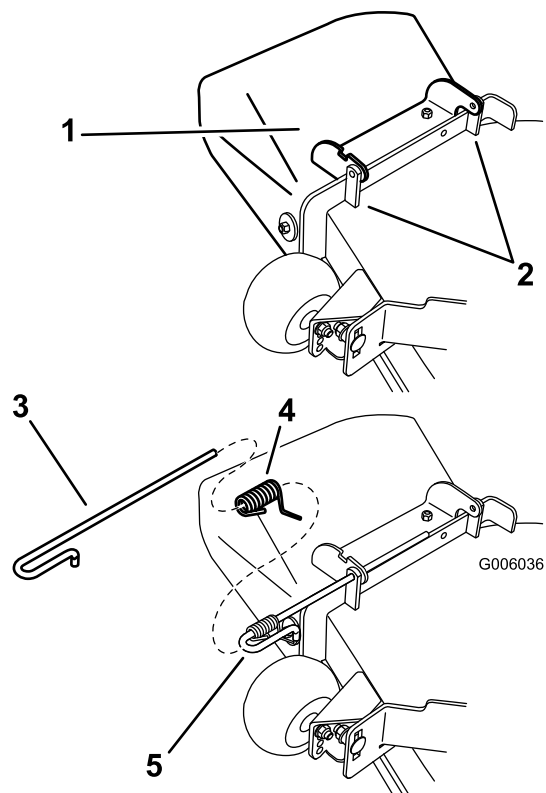

Figure 65
1. Disengage the spring from the notch in the deflector bracket and slide the rod out of the welded deck brackets, spring, and discharge deflector (Figure 65). Remove the damaged or worn discharge deflector.
- Position the new discharge deflector assembly with the bracket ends between the welded brackets on the deck as shown in Figure 65.